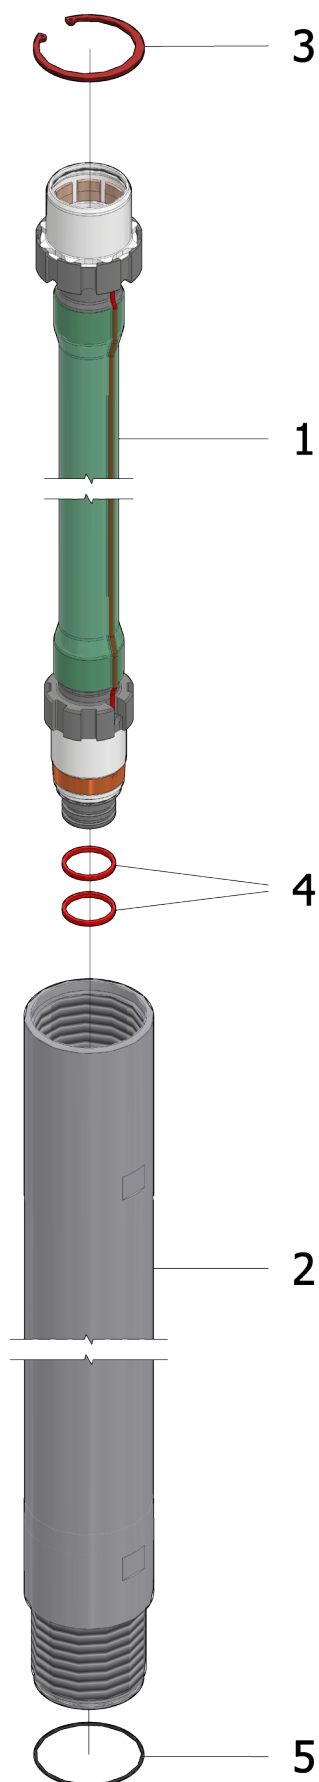

FIG. 3.16
**D.114 MWJ ROD: J-1C212S10-MWJ (L=1000); J-1C212S20-MWJ (L=2000); J-1C212S30-MWJ (L=3000) (REF. FIG. 3.16)**